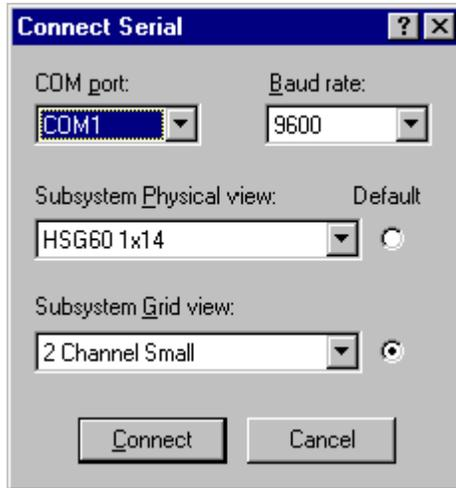

Figure 1-5. Connect Serial window
2. When the Connection Selection window appears, select Serial and then click *OK*. The Connect Serial window appears, as shown in Figure 1-5.